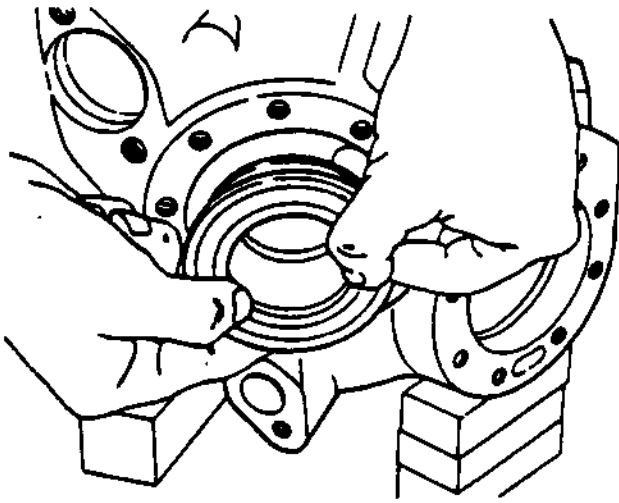

Figure 20 – Pulling Liner Off Piston
6. After suction valve plate O-ring (12) has cleared the housing, pull the assembly out by hand as shown in Figure 20. Support the piston through the liner so that the piston does not bump against the compressor housing when the liner comes off the piston. If the liner has an unloader, the unloader lift pins, springs, and take-up ring will come out with the liner.